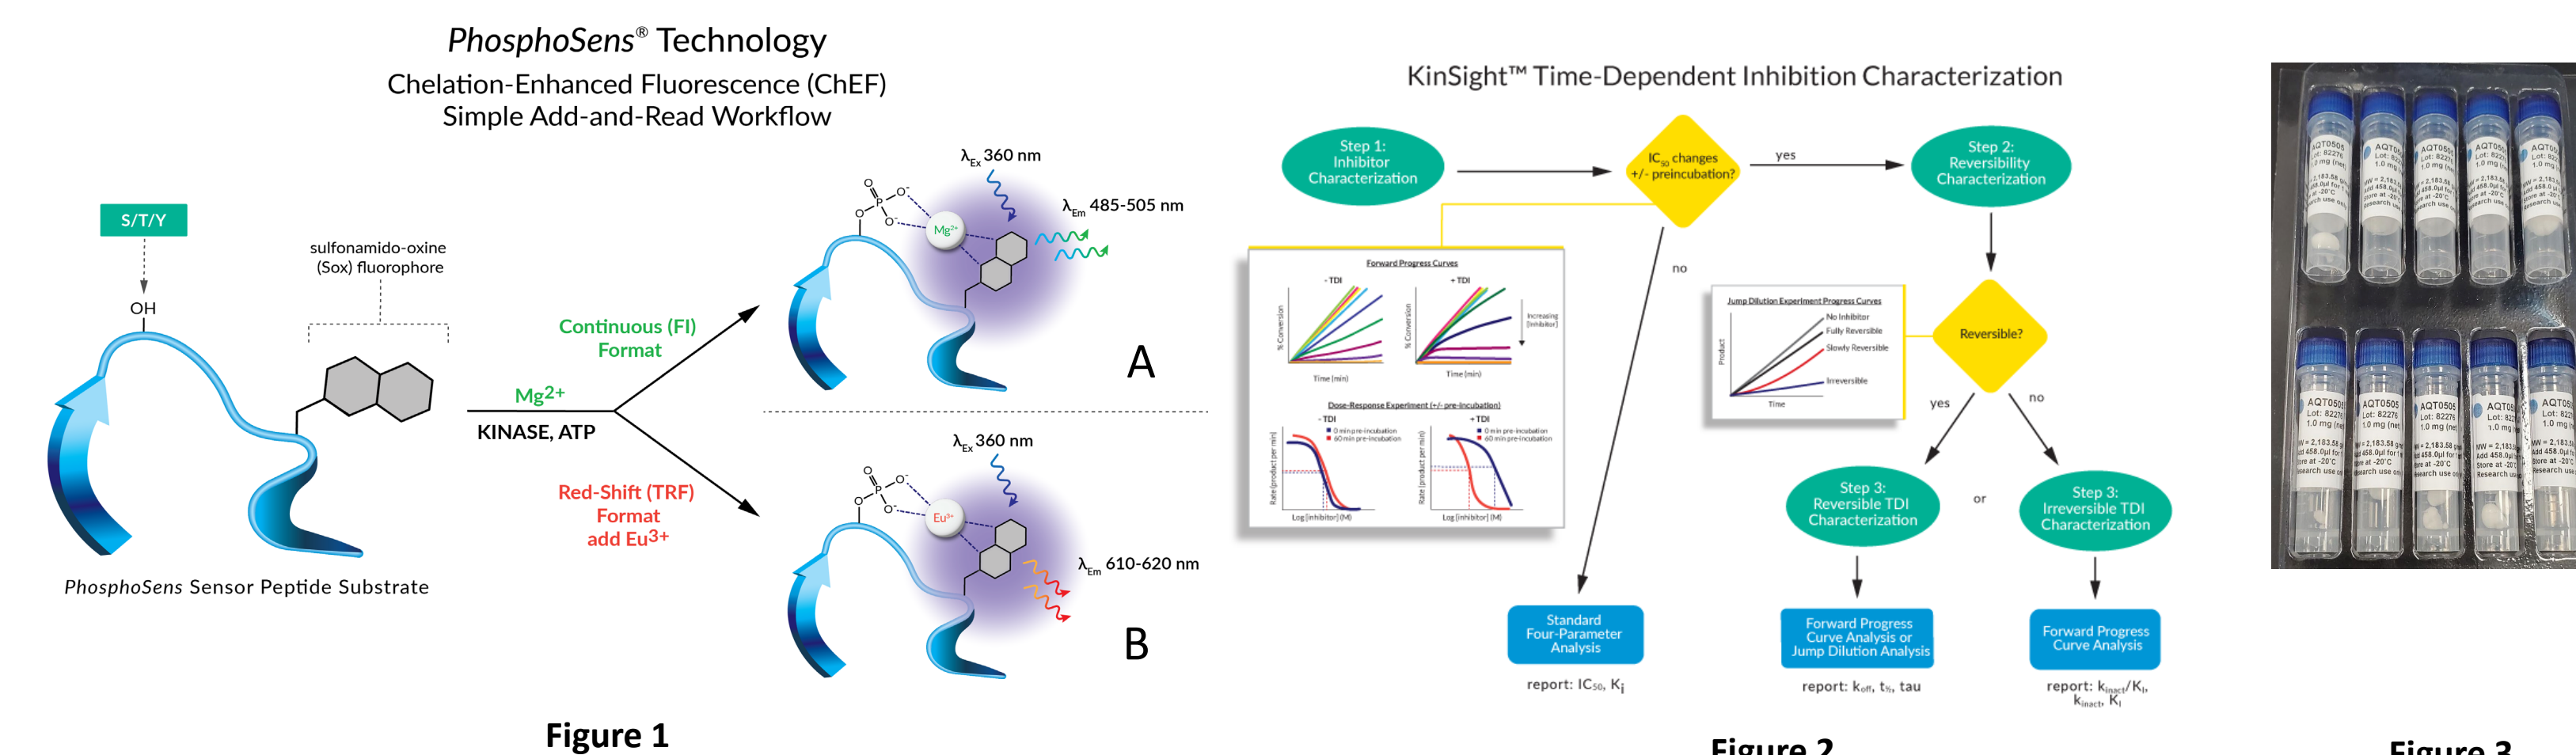
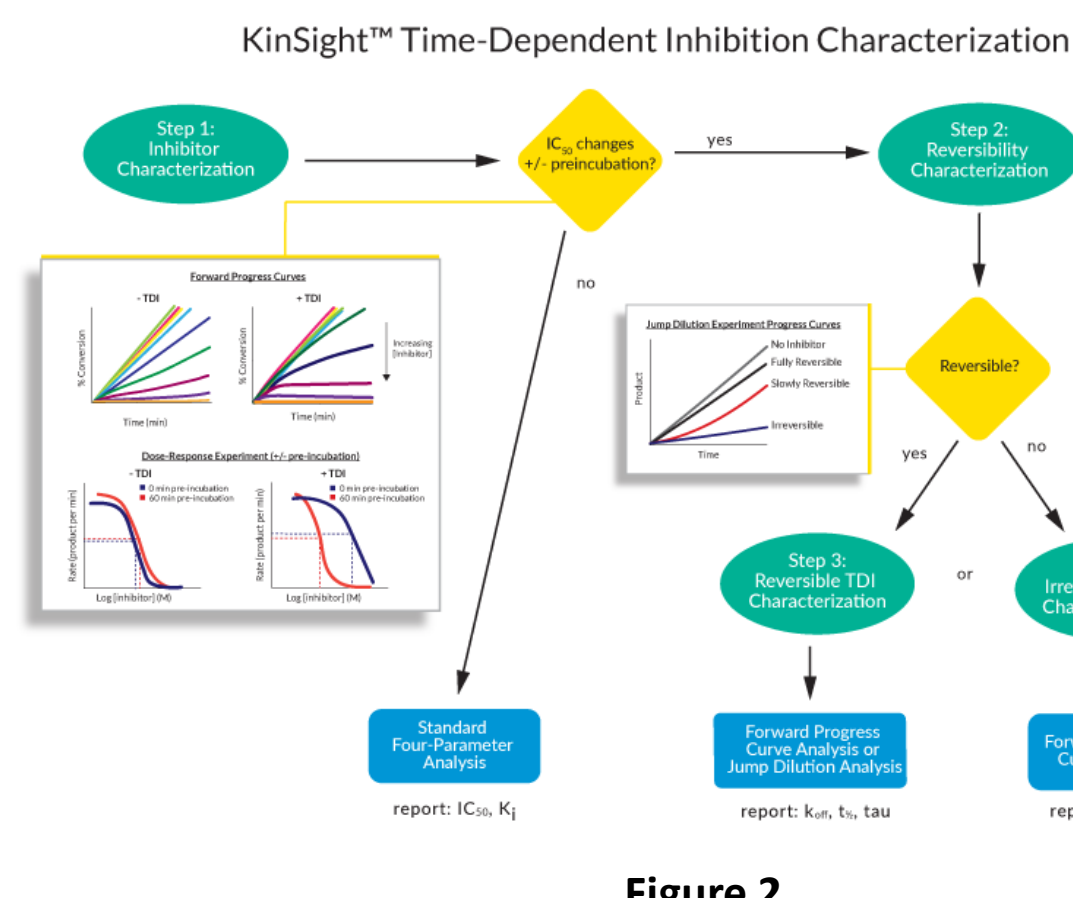
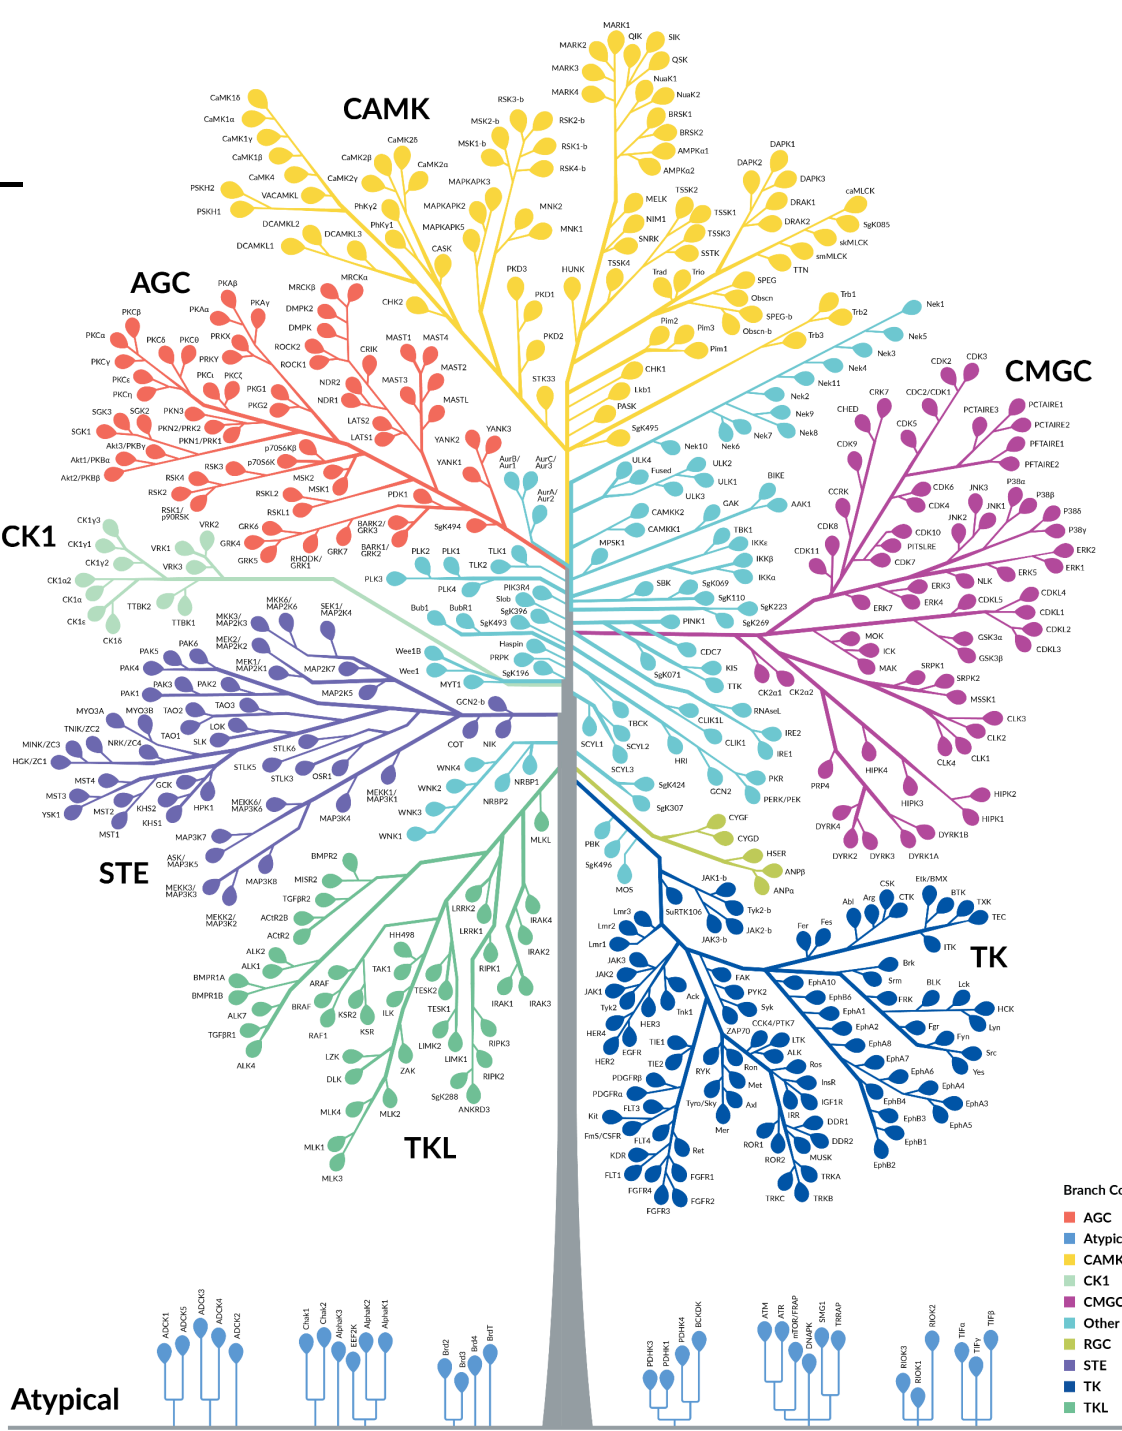

Figure 1
Figure 2
Figure 3
PhosphoSens Sensor Peptide substrates are synthesized using solid-phase methods with the Sox fluorophore coupled through the sulfhydryl group of a cysteine residue proximal to a protein kinase phosphorylation site, such as a tyrosine, serine or threonine. Upon addition of a kinase, the peptide is phosphorylated. In the presence of magnesium ion, a chelation complex is formed with the phosphate group, resulting in fluorescence enhancement of the Sox fluorophore that can be **monitored continuously** as **fluorescence intensity (A)**. Kinase inhibitors prevent phosphorylation and thus fluorescence. At any point, Europium ion can be added, to displace the magnesium ion, resulting in a long wavelength, **time-resolved fluorescence (TRF) endpoint/Red format (B)** that is useful for high-throughput or structure activity relationship (SAR) applications (Fig 1). The technology has been incorporated into Custom Testing services (Fig 2) as well as the Catalog (Fig 3).